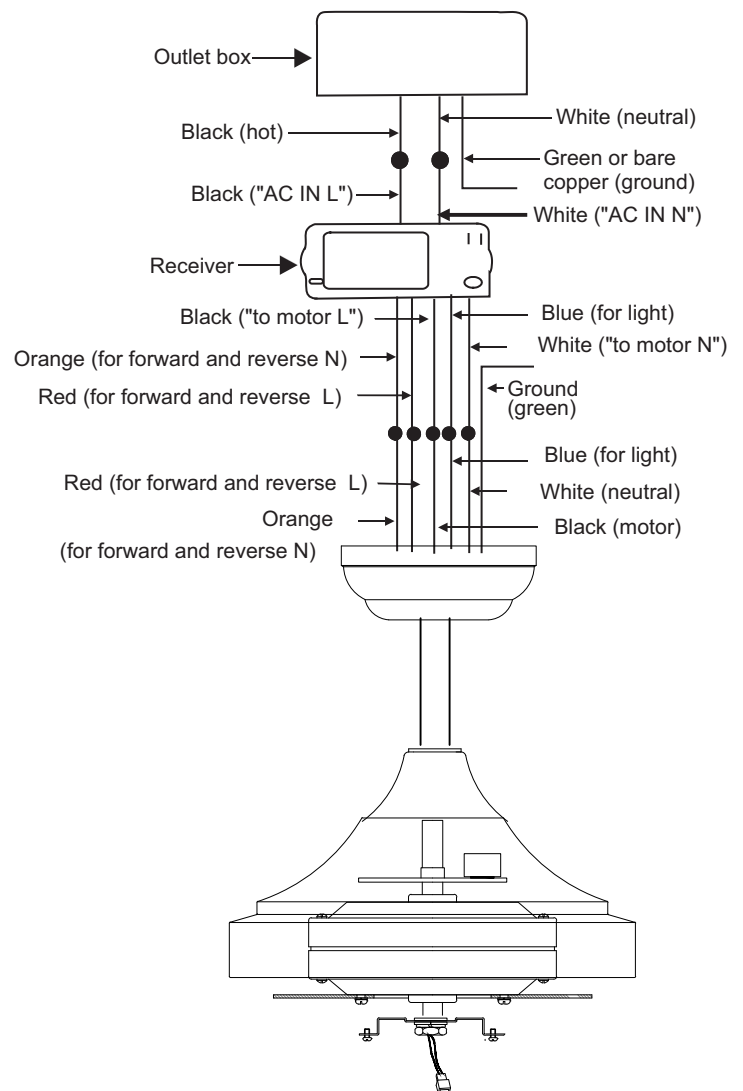

Fig 12
Step 2. Motor to Receiver Electrical Connections: (Fig. 12) Connect the black wire from the fan to the black wire marked "TO MOTOR L" on the receiver.